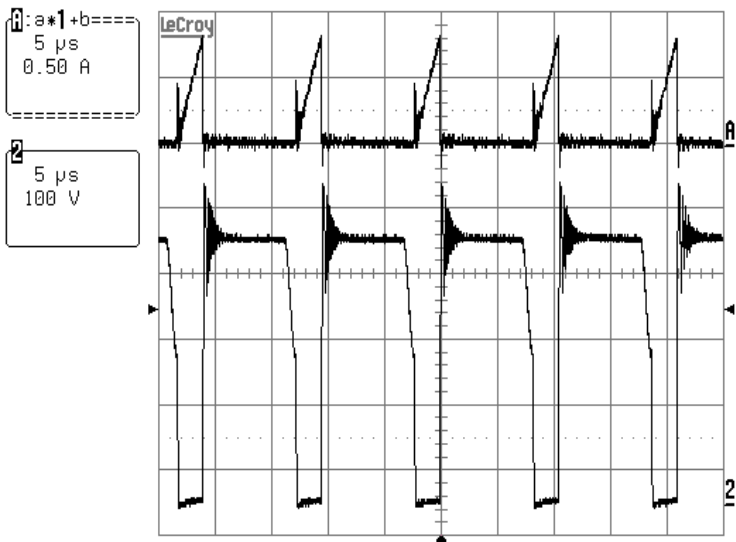
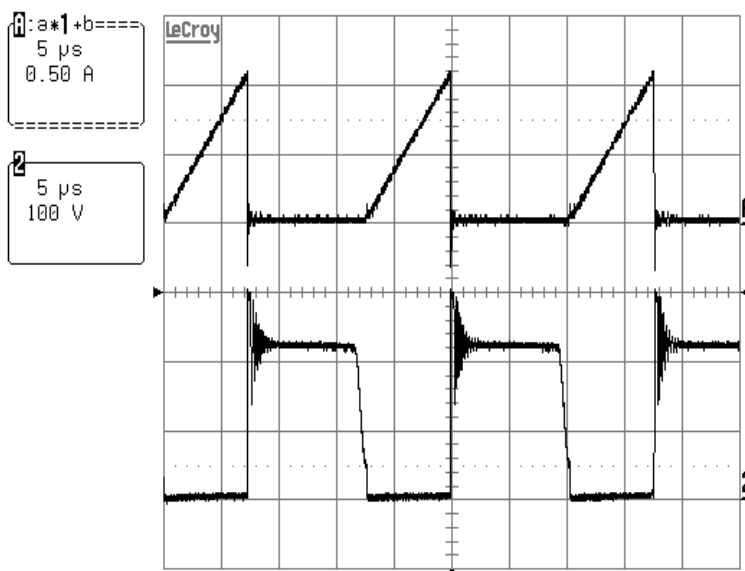

Fig 4) Drain (D) voltage of IRIS4011 (CH2) and the Drain current (CHA) at 230VAC in/Full load output
Fig 5) Drain (D) voltage of IRIS4011 (CH1) and the Drain current (CHA) at 90VAC in/Full load output
Fig 4) shows the Drain voltage and the Drain current at 230VAC input and full load output current. The voltage across the current sense resistors was measured and then using the Math function of the Lecroy scope the drain current is calculated and displayed in CHA. There is a small spike at the beginning of the ramp which is due to the discharging of the resonant capacitor and the winding capacitance of the transformer primary winding. Note that if the input voltage was 90VAC and there was a full load output, there would be very little feedback, and the source voltage would ramp all the way to the Vth(1) threshold of the IRIS4011, but in this case the input voltage is 230VAC, so the feedback has generated an offset voltage to reduce the peak current in the transformer, and hence the source voltage ramps to about 0.4V, which keeps the output power constant.
Fig 5) shows the same waveforms as in fig 4), but this time with a 90VAC input and full load output current. Note that under these conditions the current ramp is less steep due to the lower voltage across the transformer primary winding, and The source pin voltage ramps to a higher level in order to get the correct amount of energy into the transformer. Remember that the energy stored is $\frac{1}{2}LI^2$ and $V=Ldi/dt$ so with a lower voltage across the transformer the rate of change of current is lower, so it will take longer to reach the same primary current level.